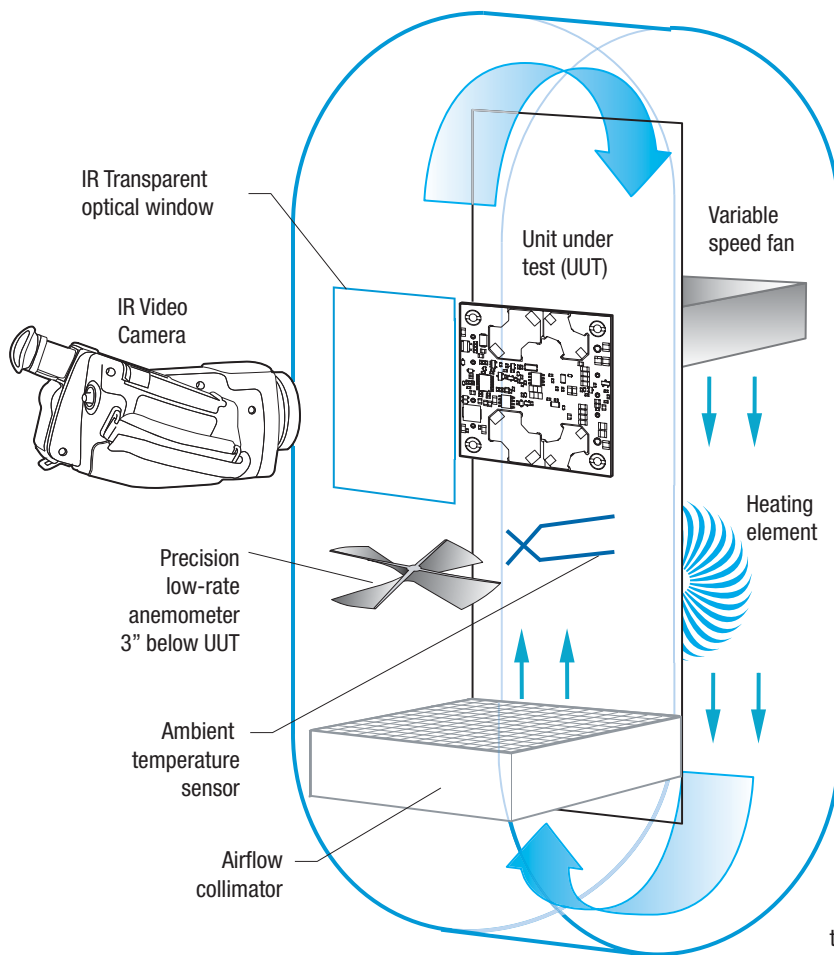

Figure 8. Vertical Wind Tunnel
**Negative**—Units are enabled when the ON/Off is open or brought to within a low voltage (see specifications) with respect to –Vin. The unit is off when the ON/Off is pulled high with respect to –Vin (see specifications). The On/Off circuitry is shown in figure 8. The On/Off pin should be pulled high with an external pull-up resistor (20K ohms). When Q1 is in the off state, the On/Off pin is pulled high, transistor Q3 is turn on and the unit is off. To turn on the unit, Q1 is turn on, pulling the On/Off pin low and turning Q3 off resulting on the unit being on.